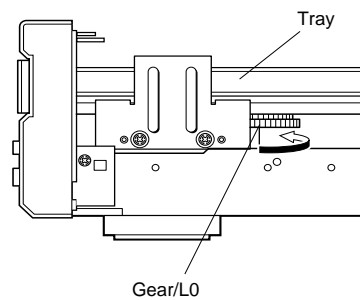

Fig. 2
- Turn Gear/L0 as shown in Fig. 2 counter clockwise gradually till immediately before the tray starts to move and stop it there.